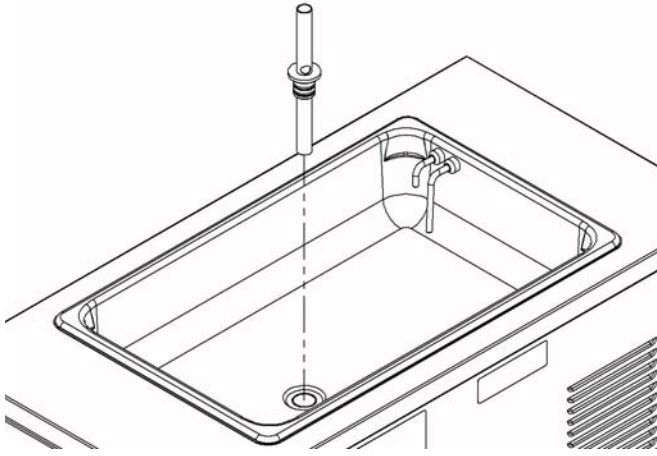

Figure 3-2 Mix Inlet Regulator
- D. Clean sides of hopper, mix inlet regulator and underside of hopper cover using a soft bristle brush dipped in the sanitizing solution (Refer to Figure 3-2).